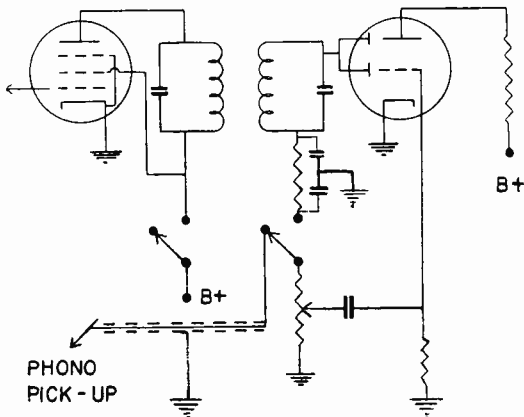
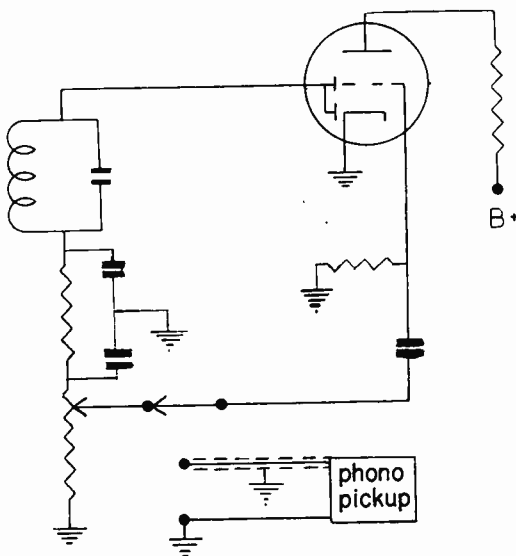

FIG. 9. Phonograph pickup when receiver volume control is to be used.
FIG. 10. Connections when phono-pickup has its own volume control.
Each situation will require different treatment. First we will consider the crystal with and without its own volume control. Fig. 9 shows the i-f amplifier, detector, and first af amplifier in a standard AM receiver. There are, of course, slight variations but the phono installation is the same. In Fig. 9 we want to kill the radio for phono operation and feed the phono signal into the receiver volume control, since the pickup does not have its own control. This is easily accomplished by using a double-pole, double-throw toggle switch as shown. In the position shown, voltage is removed from the screen and plate of the i-f amplifier, effectively killing radio reception,
If the record player has its own volume control, use the circuit shown in Fig. 10. Here the controlled output of the pickup is fed to the first af coupling capacitor, and the receiver volume control will have no effect on phono operation.
In Fig. 10 the ground symbols may or may not indicate the receiver chassis. To be safe, "ground" connections are to be made to the end of the receiver volume control that is at the lowest audio potential (shown in the diagrams as being grounded).
**Adding Phono Pickups to TV Sets.** If the question arises of connecting a phono pickup to a TV receiver, it is best to discourage such an installation. Point out to the customer that the TV portion of the receiver cannot be cut off and the sweep circuits must be kept operating. However, you could break into the audio system as shown in Figures 9 or 10. Although the detector systems are different in TV receivers, beyond the volume control the circuits are identical. There is an exception; in some of the recent TV sets, the detector feeds the power output tube without any intervening audio amplifier. However, one of the high-output low-fidelity pickups will drive a power output tube. It should be connected to the volume control as shown in Fig. 9, using a single-pole, double-throw switch instead of a double-pole unit in Fig. 10.